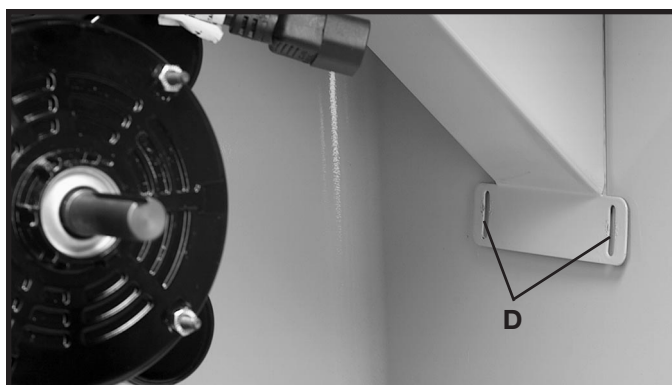
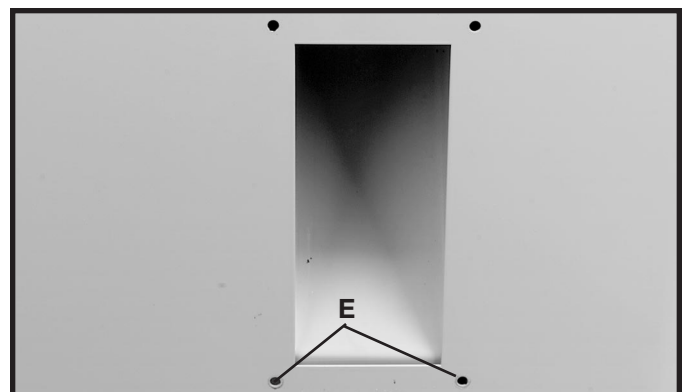

Fig. 13
Fig. 14
2. Align the two slotted holes (D) Fig. 13, in the bottom of the dust chute with the two holes (E) Fig. 14, in the stand.